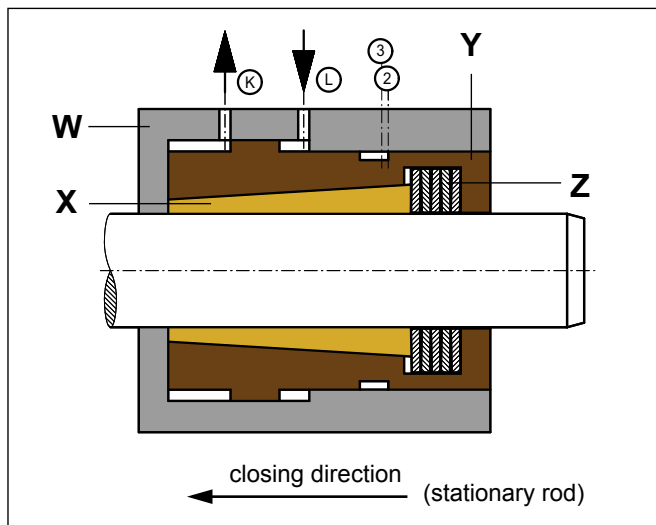

Fig. 1: Design of the SITEMA PowerStroke (clamping released)
The clamping system consists of the clamping sleeve (X) Fig. 1 and the clamping ring (Y) Fig. 1 which are braced against each other by springs (Z) Fig. 1. The clamping ring is supported in the housing (W) Fig. 1 so that it can be moved hydraulically via the pressure ports L and K.
If the required minimum pressure is applied to pressure port L (pressure port K pressure-free), then the housing (W) moves in opposite direction to the closing direction until it reaches the stop, thereby opening the clamping system (see Fig. 1).